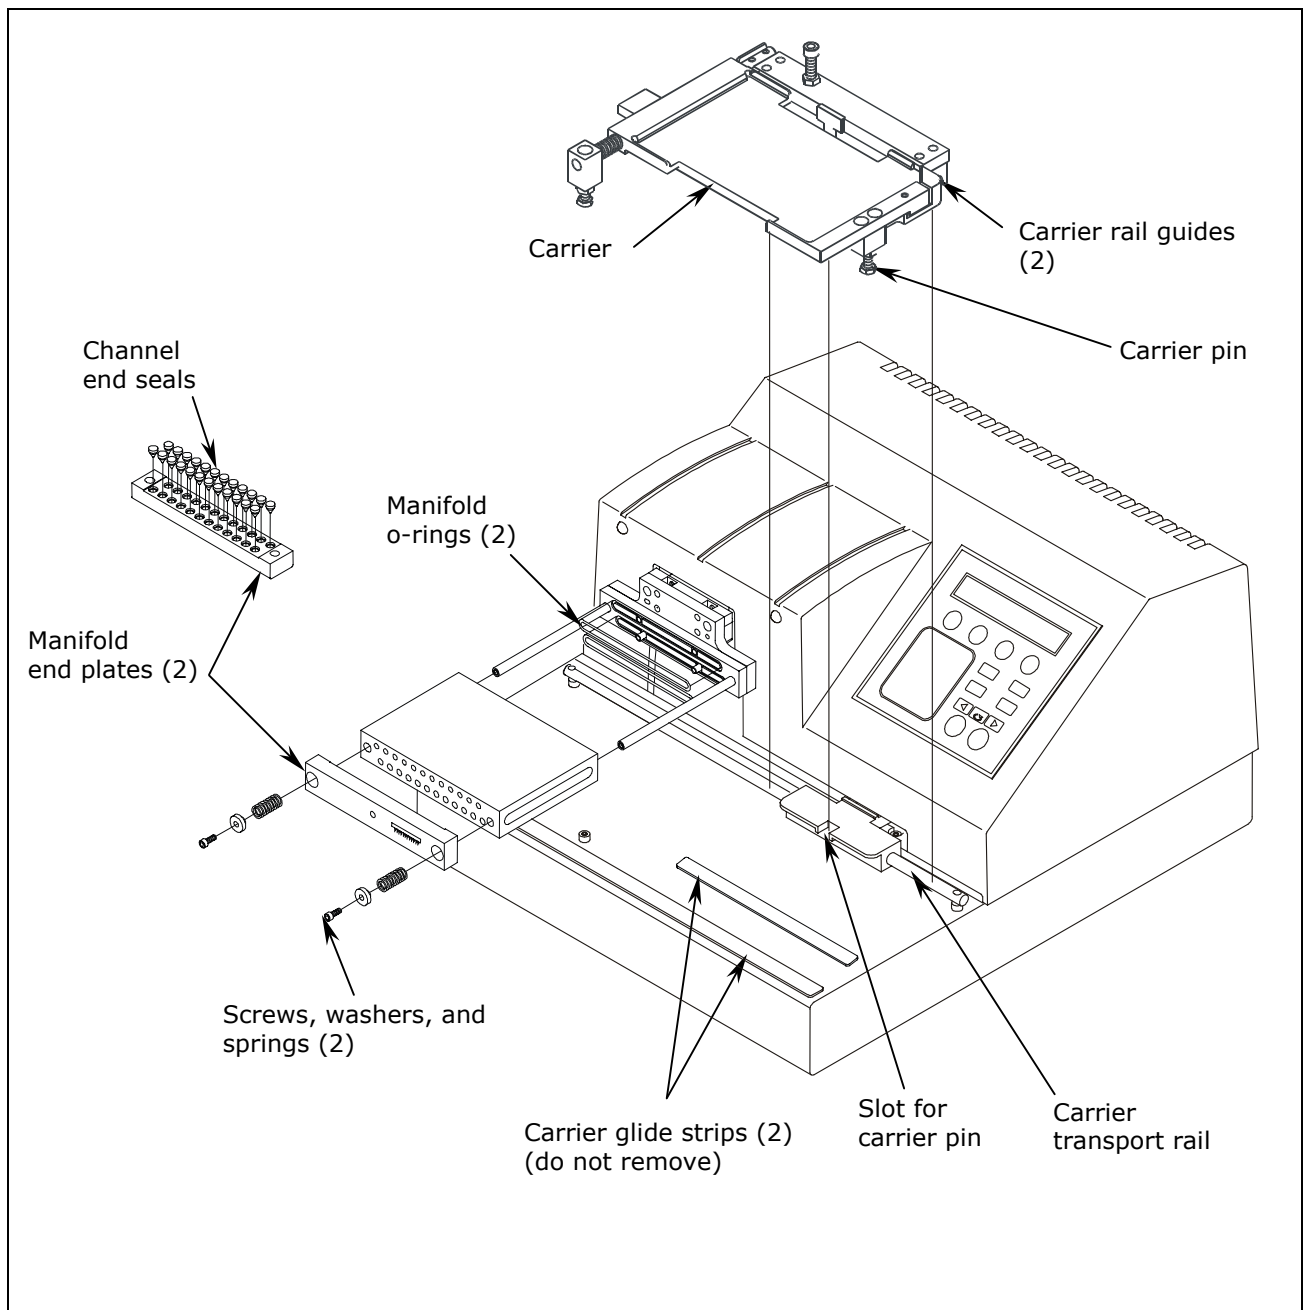

Figure 25: Carrier and Manifold Placement in the ELx405 Model
2. Carefully lift the carrier straight up and off the horizontal transport rail. See **Figures 25, 26, and 27**.
7. Using the 9/64" (3.57 mm) hex wrench, remove the screws, washers, and springs that hold the manifold(s) in place (see **Figures 25, 26, and 27**). Carefully remove the manifold(s) and end plates.